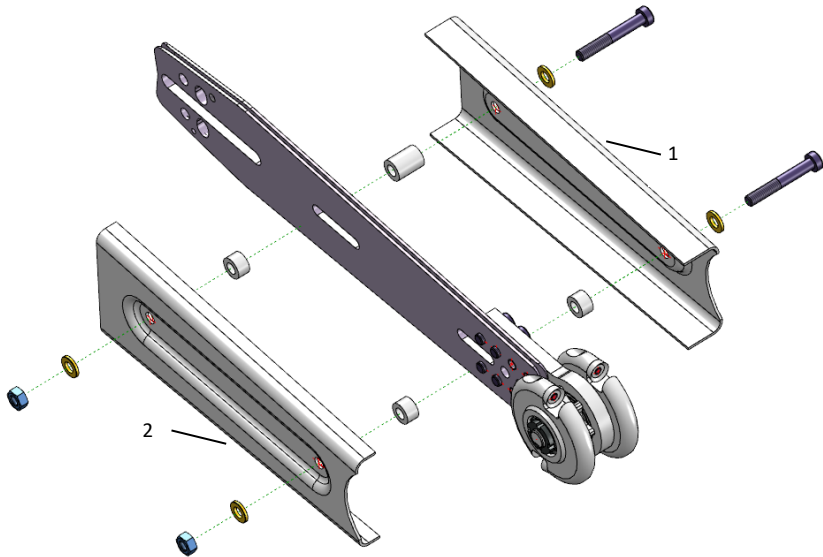

Fig. 10. Mounting the protective plates
- To mount the protective plates, first insert two M6 cap screws with washers into the left protective plate (1- Fig 10). The spacer sleeves can then be placed on the inside of the protective plate. The longer sleeve is placed on the screw which is closest to the saw. The protective plate with the screws can then be connected to the trough cutter through the holes on the bearing block and the guide bar. After mounting the two short spacer sleeves and placing the right-hand protective plate (2- Fig 10), tighten the hexagon nuts. (nut SW 10, screw SW 5)